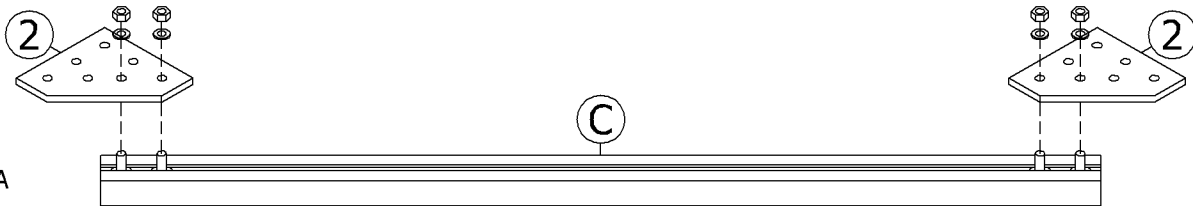

FIGURE 5-A
5. The top and bottom of each corner requires one racking brace (see Figure 5-A). Fit bracket "2" (45 degree cross bracket) to each end of framing member "C" with 2 carriage bolts, nuts and washers. Hand tighten the nuts.